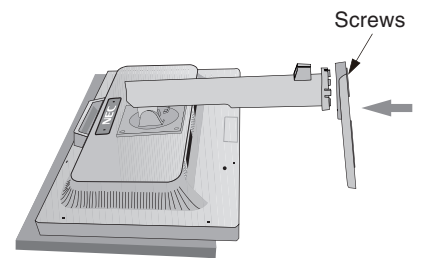

Figure 2
3. Attach the base stand to LCD monitor and lock screws of base stand bottom (**Figure 2**).